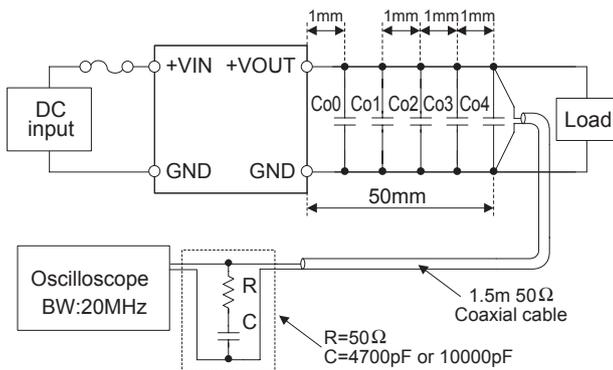

Fig.3.4 Measuring method of Ripple and Ripple Noise
■ Ripple and Ripple Noise are measured, as shown in the Fig.3.4.  $C_o0$ ,  $C_o1$ ,  $C_o2$  and  $C_o3$  is shown in Table 3.4.